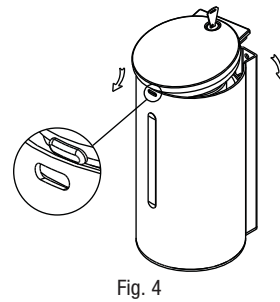
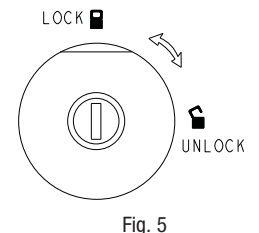

Fig. 4
Fig. 5
5. Remove the soap dispenser lid using the key to unlock. (Fig. 4 and Fig. 5)